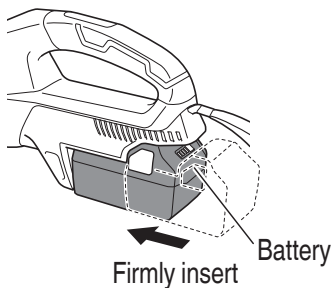

Fig. 18
3. Install the battery (**Fig. 18**)